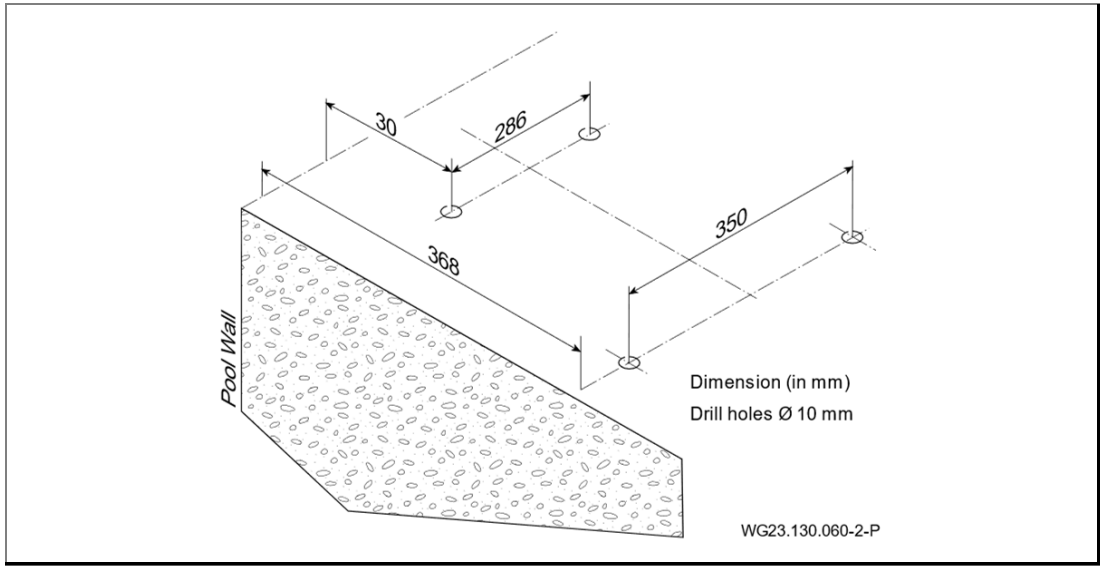
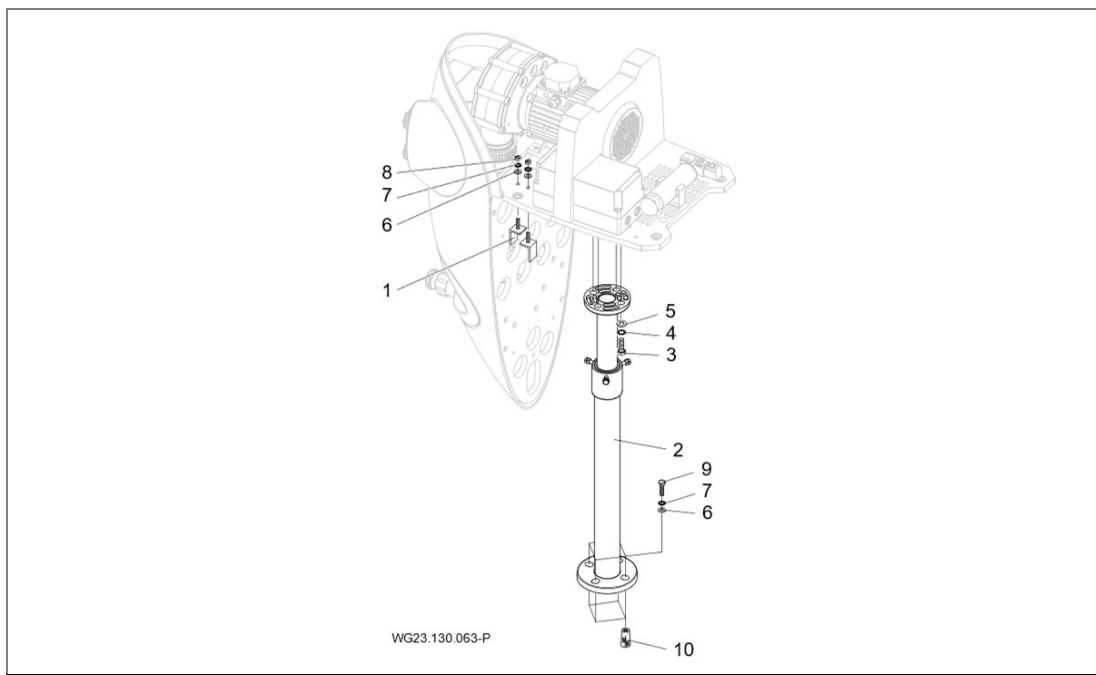

Fig. 4
Fig. 5
- Select the assembly site and prepare it in accordance with Fig. 4. If the unit is being used in an above ground pool, the telescopic support foot must be used, for attachment instructions See "Fig. 5" on page 19.
- Lift the unit and drill the Ø10 mm holes on the markings. See "Fig. 4" on page 18